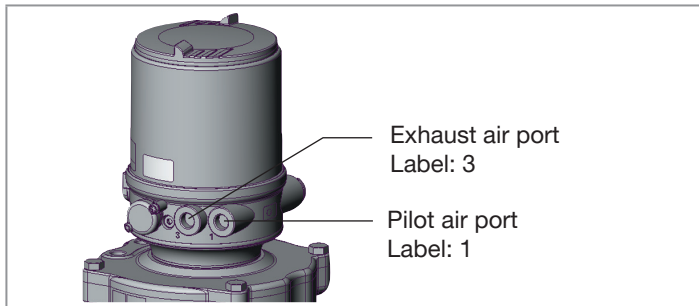

Fig. 16: Pneumatic connection Type 8686
- Connect the control medium to the pilot air port (1) (6 – 7 bar; instrument air, free of oil, water and dust).
- Mount the exhaust air line or a silencer on the exhaust air port (3) (see “Fig. 16: Pneumatic connection Type 8686»).